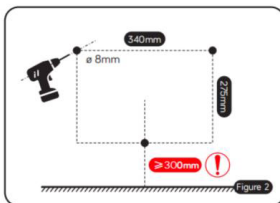

Figure 2
2. According to the size and distance requirements shown in (Figure 2), punch holes in the wall.